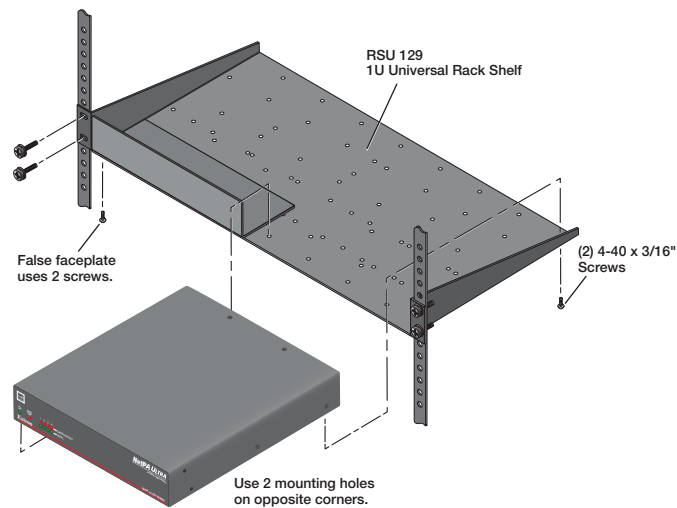

Figure 5. Mounting the Amplifier onto a Rack Shelf
6. Attach the shelf to the rack by using the four 10-32 x 3/4" screws provided with the shelf. Insert the screws through #10 beveled washers, then through the holes in the rack (see figure 5 on the previous page).